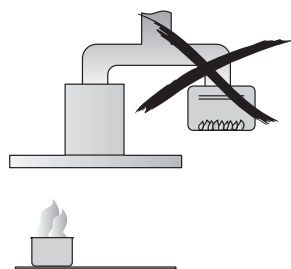

Fig. 1
- The exhaust from the canopy rangehood must not be discharged into any heating flue, which may carry combustion products from other sources. (Fig. 1)